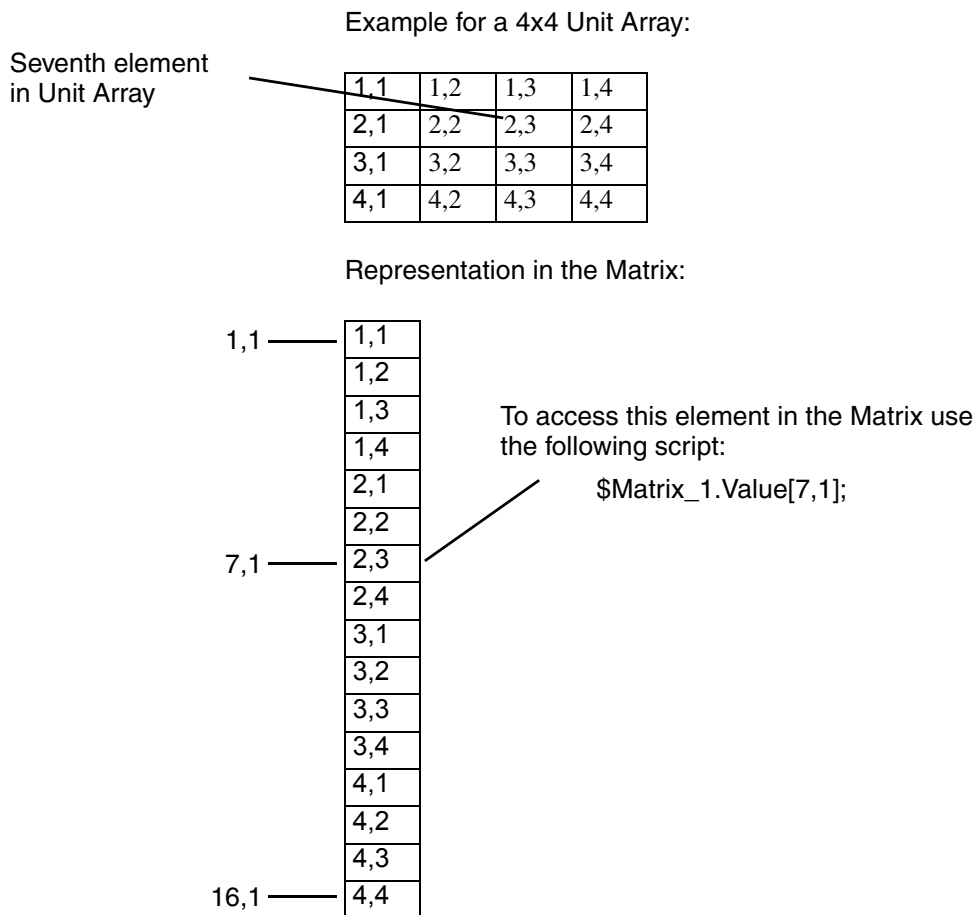

Figure 78. Working with Data from Unit Array
from the Matrix element you will need to equate the Matrix row number to the corresponding row, column position in the Unit Array. This is illustrated in Figure 78 in Reading Unit Array Data From the Matrix Display Element.
Data from a Unit Array are stored in a single column in a Matrix element. To equate a Matrix row number with the corresponding Unit Array row/column position, assign each element in the Unit Array a row number in the Matrix starting with one (1) and increasing as you read from the unit array from left to right. This is illustrated in Figure 78.